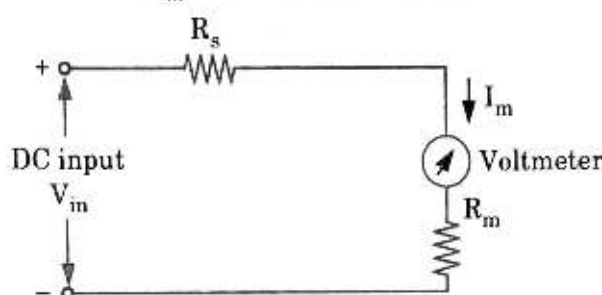

Fig. 1.26.1. Basic DC voltmeter circuit.
1. A DC voltmeter is made up of a PMMC instrument and a series multiplier resistor as shown in Fig. 1.26.1.